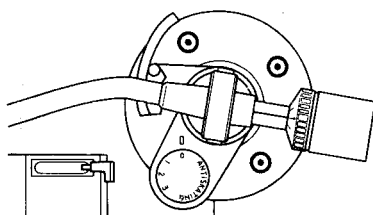

Fig. 6-17
2. Set the anti-skating adjuster to 0 and check that the tone arm lifter lever is at ▼ Fig. 6-17.